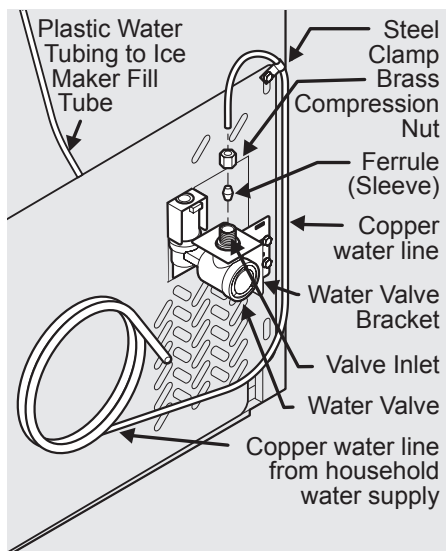

Figure 1
4. **If you use copper tubing** - Slide brass compression nut, then ferrule (sleeve) onto water supply line. Push water supply line into water valve inlet as far as it will go (1/4 inch/6.4 mm). Slide ferrule (sleeve) into valve inlet and finger tighten compression nut onto valve. Tighten another half turn with a wrench; DO NOT overtighten. See Figure 1.